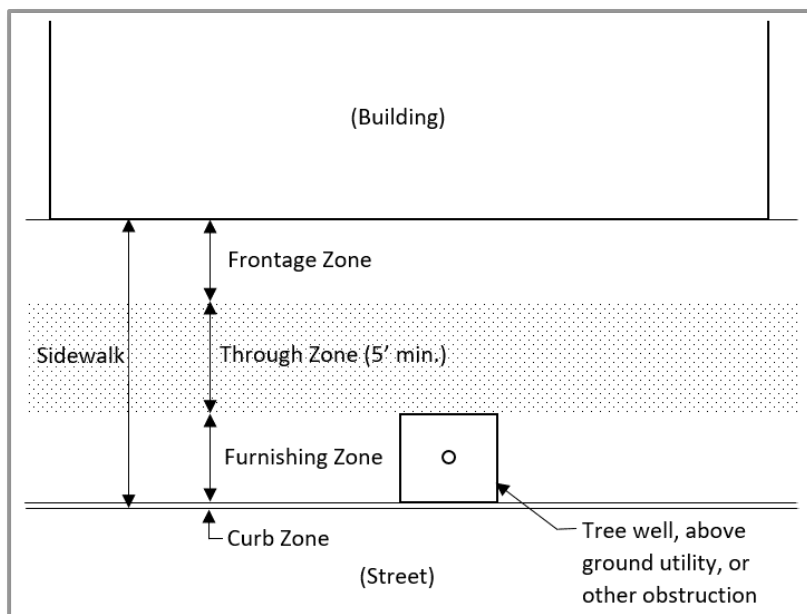

Figure 1 - Frontage Zones
The Parklet Program Manual focuses on activating space within the public right-of-way that generally falls within the curb zone as depicted in “Figure 1 – Frontage Zones”. Proposals to activate exterior spaces within the “frontage zone” described on this exhibit or on private property fall under separate approval and permitting processes and any applicant attempting to activate these areas should first contact the Planning and Economic Development Department.
- A. “Private Parklet” means a temporary, non-structural platform constructed within the traveled portion of right-of-way that replaces one or more parallel, perpendicular, or diagonal parking space(s) and all associated furnishings. A platform may be built to bring the grade of the sidewalk out into the street. Once the platform is installed, furnishings such as tables, chairs, benches, bike parking, and/or landscaping may be placed on the platform. Parklets must be placed in the Curb Zone as described in *Figure 1 - Frontage Zones*. The owner of a private parklet may limit the use of the parklet to members of the public who patronize the sponsoring business.
- B. “Public Parklet” means a temporary, non-structural platform constructed within the traveled portion of right-of-way that replaces one or more parallel, perpendicular, or diagonal parking space and all associated furnishings. A platform may be built to bring the grade of the sidewalk out into the street. Once the platform is installed, furnishings such as tables, chairs, benches, bike parking, and/or landscaping may be placed on the platform. Parklets must be placed in the Curb Zone as described in *Figure 1 - Frontage Zones*. Public Parklets are to be designated as publicly accessible open space. Members of the public may freely utilize the parklet regardless of whether they patronize the sponsoring business or not.